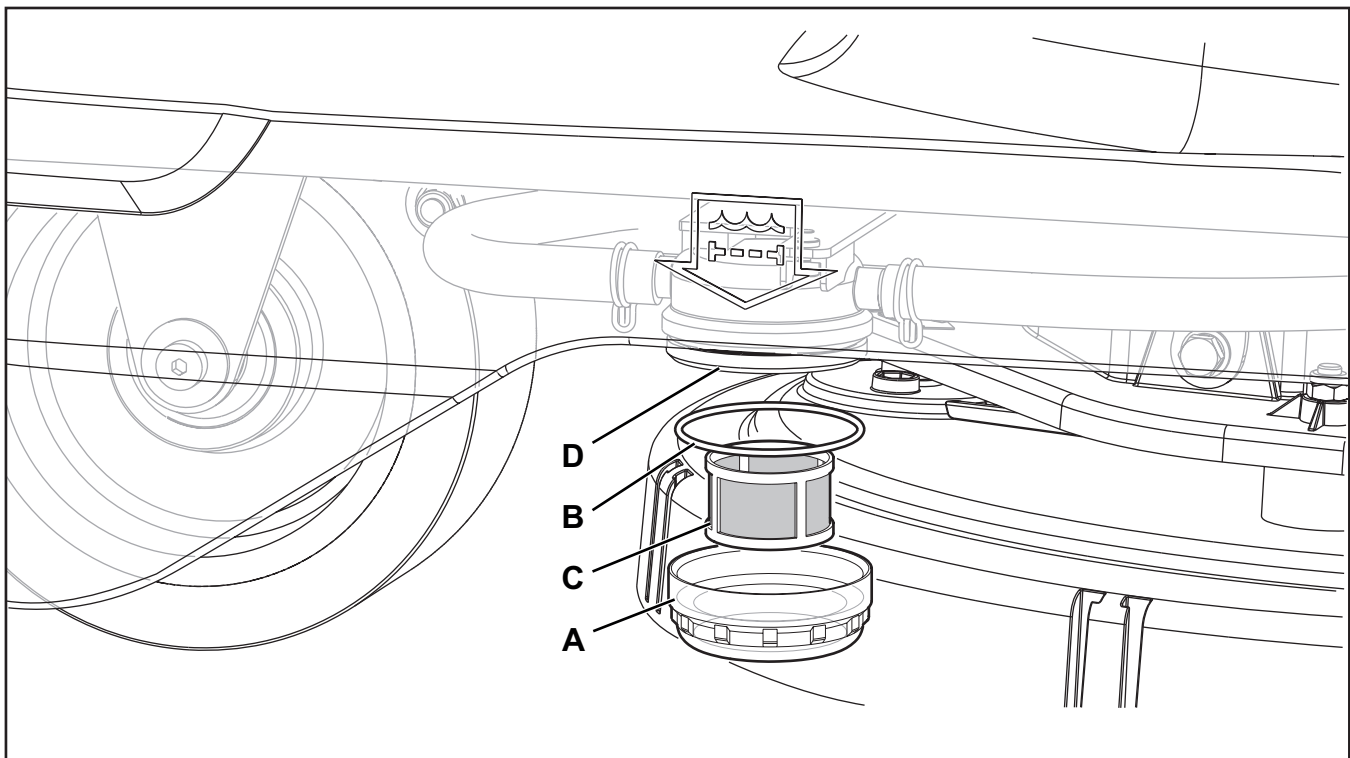

Figure 7
4. Remove the transparent cover (A, Figure 7), retrieve the gasket (B), then remove the filter strainer (C).
5. Wash and rinse them with water, then refit them carefully onto the filter support (D).